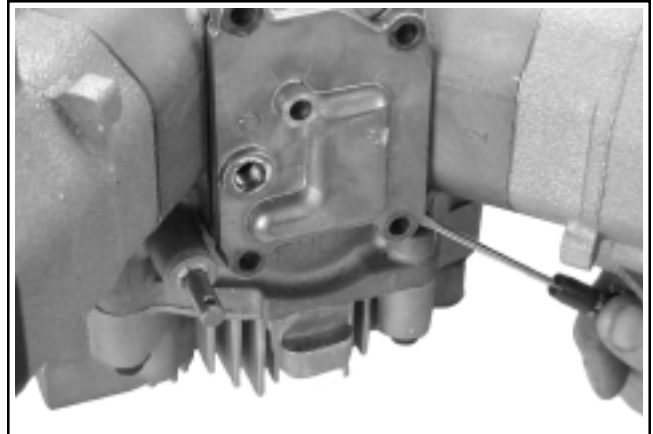

Figure 9-59. Prying Off Breather Cover.
2. Carefully pry under the protruding edge of the breather cover with a screwdriver to separate the cover. See Figure 9-59. Do not pry on the sealing surfaces as it could cause damage resulting in leaks.